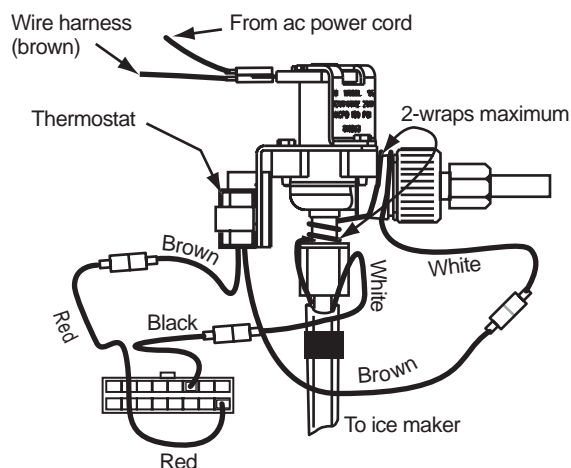

Figure 48. Solenoid water valve
The water valve, see Figure 48, is solenoid operated. This valve is located on the back of the cabinet on the bottom of the refrigerator. The solenoid is supplied 120 Vac through the ice maker wire harness. Spring pressure maintains the valve shut when the solenoid is not energized.
3. Carefully wrap one white heater wire around the valve as shown in Figure 48. *Do not exceed two wraps at each point.*